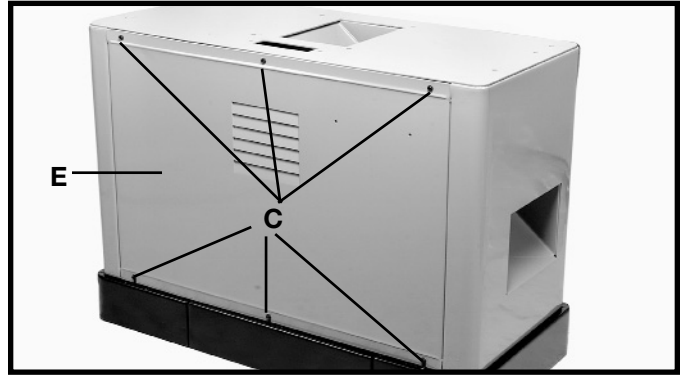
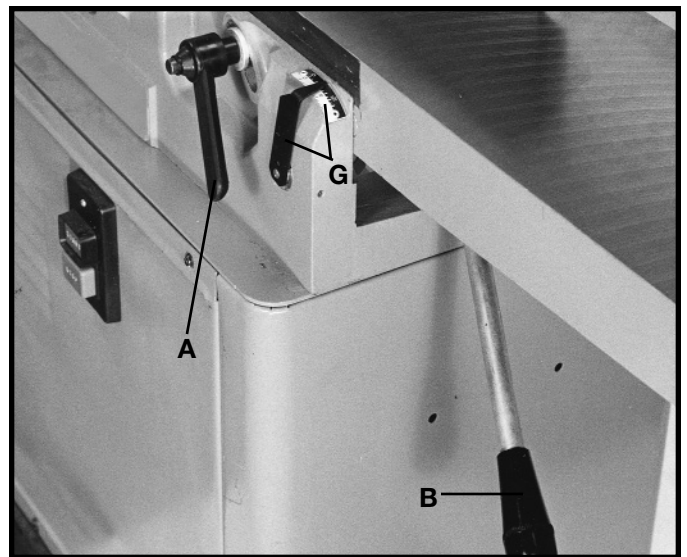

Fig. 4A
Fig. 19
2. Remove the six screws (C) Fig. 4A. Then remove back panel (E) from the stand.
To raise or lower the infeed table (see Fig. 4A), loosen table lock handle (A) Fig. 19, and move the table raising and lowering hand lever (B) up or down until the table is at the desired position and tighten table lock handle (A).
The depth of cut of the infeed table (position of table in relationship with the cutting circle) can be read with the pointer and scale (G) Fig. 19.